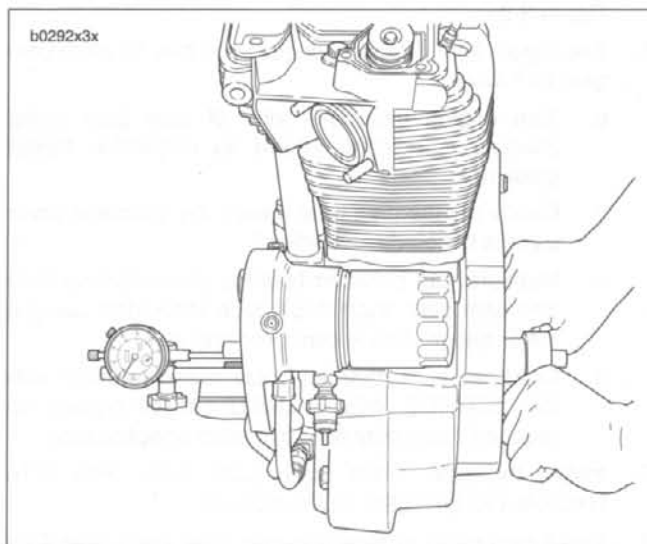

Figure 3-93. Checking Flywheel End Play
3. See Figure 3-93. Attach a dial indicator to gear side crankcase with indicator stem on end of gearshaft.